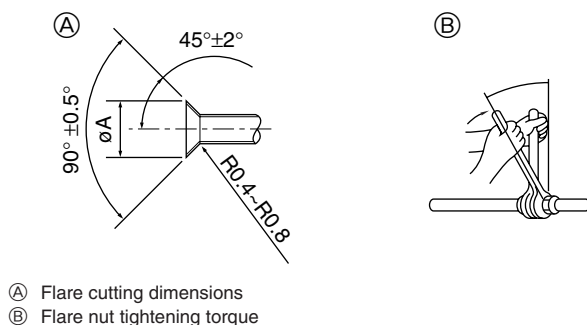

Fig. 7-1
- ▶ Connect the liquid and gas pipes of each indoor unit to the same end connection numbers as indicated on the indoor unit flare connection section of each Branch Box. If connected to wrong end connection numbers, it doesn't work normally. (Fig. 7-1)